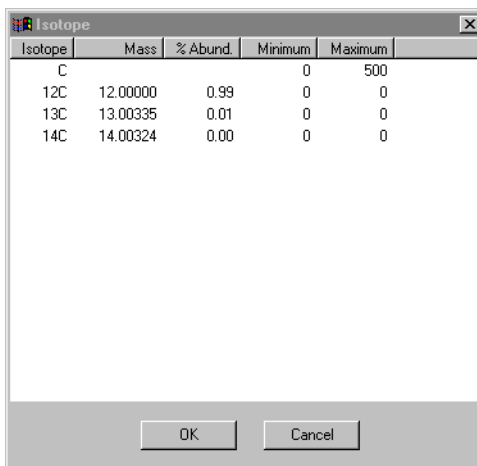

Figure 6-7 Isotope Dialog Box
3. Click an element to select it and to display the Isotope dialog box (Figure 6-7).